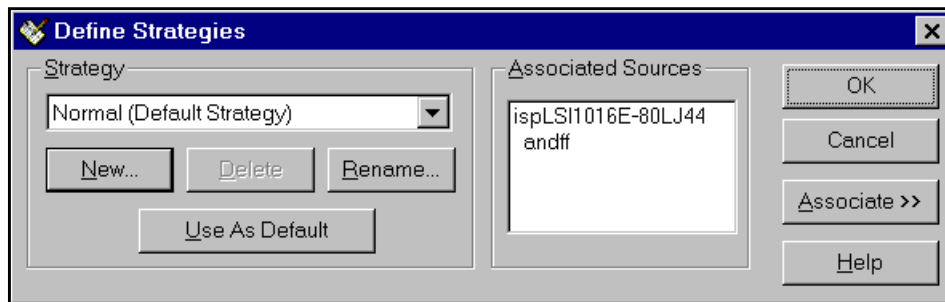

Figure 3-10. Define Strategies Dialog Box
1. Select **Source** ⇒ **Strategy** from the Project Navigator. The Define Strategies dialog box (Figure 3-10) appears.